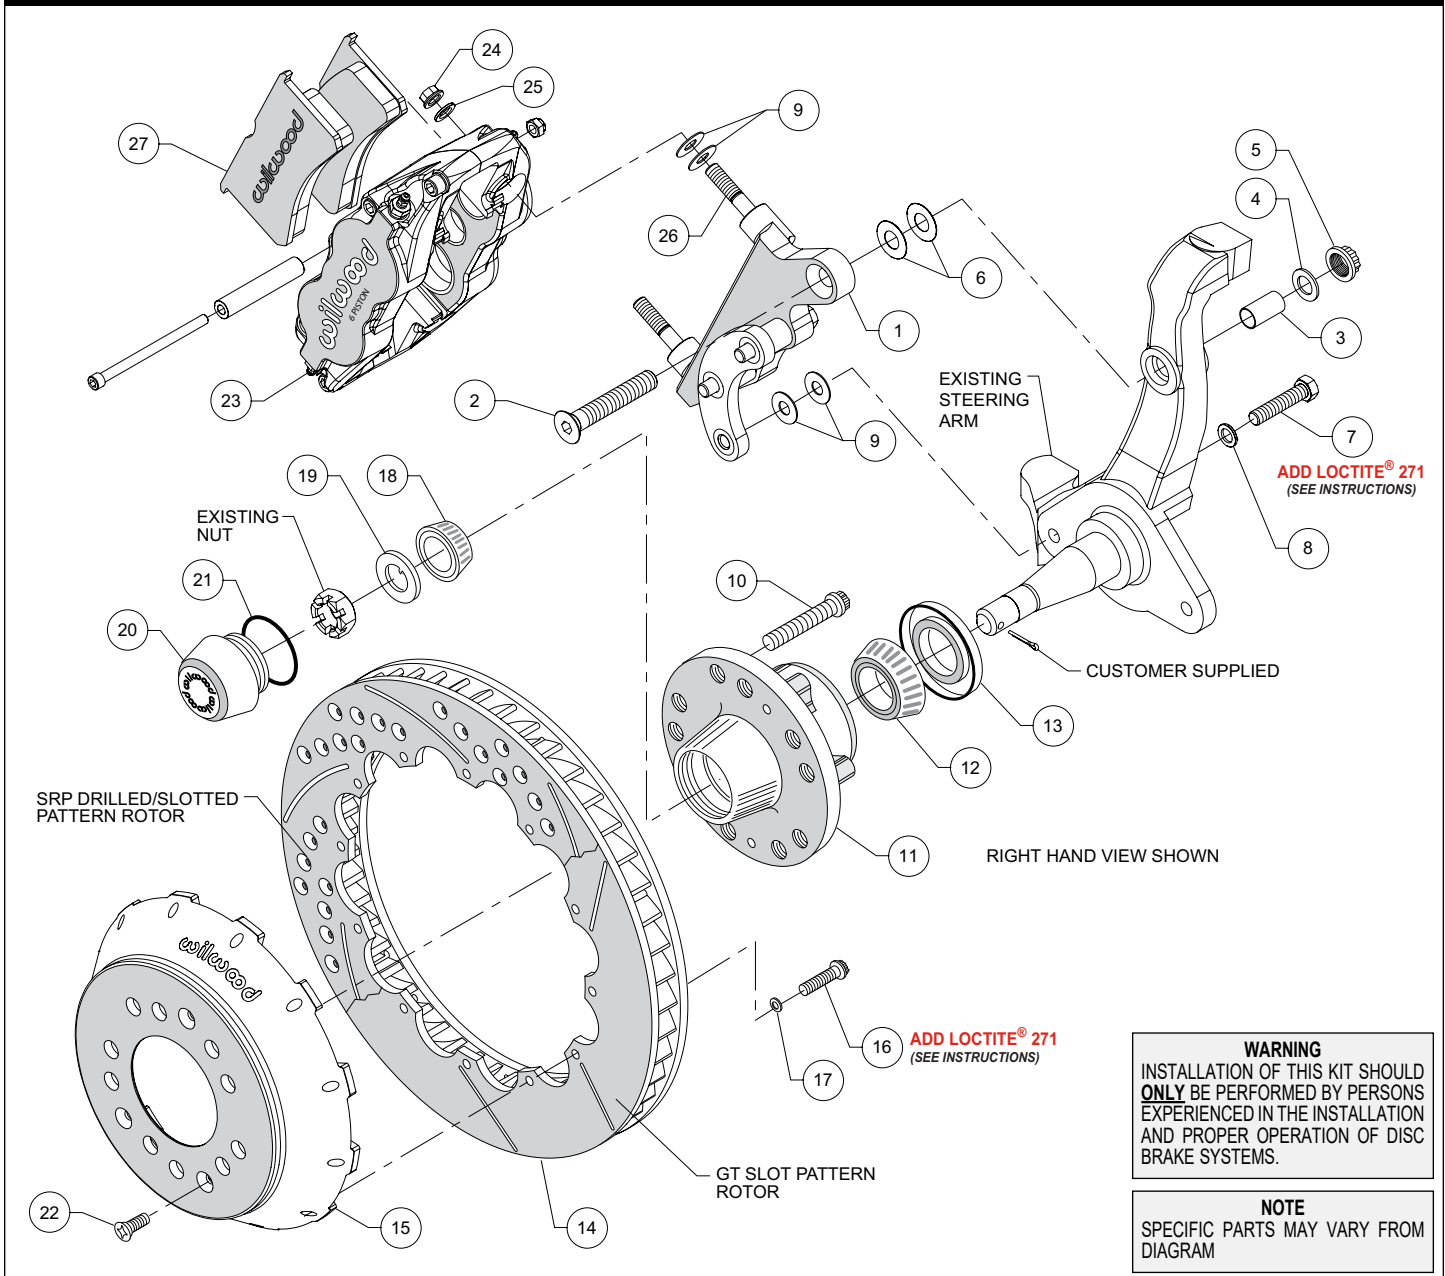
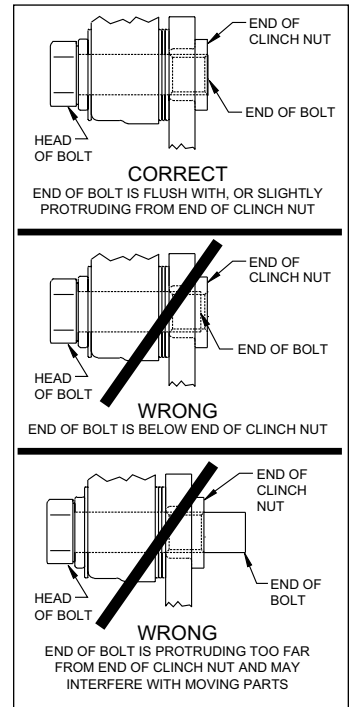

Figure 1. Typical Installation Configuration
Figure 4. Clinch Nut Engagement Diagram
Assembly Instructions (numbers in parenthesis refer to the parts list and Figure 1 on the preceding pages): **CAUTION:** All mounting bolts must fully engage clinch nuts. Be sure to check that all bolts are either flush or protruding through flanged side of clinch nut after shimming, Figure 4.
- The caliper bracket (1) should initially be installed with clean, dry threads on the mounting bolts. The bracket has been assembled at the factory for alignment purposes. Loosen the two bolts that secure the brackets together so that the bolts are hand tight only. This will enable the bracket assembly to be adjusted to accommodate various spindle tolerances during assembly. Insert sleeve (3) into top mounting hole on the spindle, Figure 1. Orient the bracket as shown in Figure 1 and install using bolt (2), washer (4), and locknut (5), in the upper hole, as shown in Figure 1 and Photo 1. Initially use two .032" thick shims (6) on the upper bolt between the bracket and spindle, Figure 1. Install bolt (7) and washer (8) in the lower hole, Figure 1. Initially use two .035" thick shims (9) between the bracket and spindle face. Temporarily tighten the mounting bolts, followed by the two bracket-to-bracket bolts. **NOTE:** The bracket must fit squarely against the mounting points on the spindle. Inspect for interference from casting irregularities, machining ridges, burrs, etc. Later, after the bracket and caliper alignment has been checked, the bolts will be secured using red *Loctite*® 271.
- Check that the bracket (1) is aligned parallel to the rotor (14), Photo 2, by assembling and installing the hub, hat, and rotor per the steps below. If not, parallel adjust by adding or subtracting shims (9) on the lower bolt between the spindle and bracket, Figure 1.
- Install wheel studs (10) into the hub (11), Photo 3. Torque to 77 ft-lb. **NOTE:** There are two five lug patterns in the hub (5 x 4.50 and 5 x 4.75). Ensure the correct hub stud pattern is being used to fit the wheel application.
- Pack the large inner bearing cone (12) with high temperature disc brake bearing grease (available from your local auto parts store) and install into the backside of the hub (11), Photo 4.
- Install the grease seal (13) by pressing into the backside of the hub (11), flush with the end of the hub, Photo 4.
- Orient the rotor (14) and the hat (15) as shown in Figure 1 and Photo 5. Attach rotor to hat using bolts (16) and washers (17). Apply red *Loctite*® 271 to the bolt threads and torque to 155 in-lbs using a criss-cross pattern. For an added measure of
- Pack the small outer bearing cone (18) with high temperature disc brake bearing grease and install into hub (11). Slide the hub assembly onto the spindle. Secure using spindle washer (19) and OEM spindle nut, Photo 6. Adjust bearings per OEM specifications. Install saved OEM nut lock (if any) and a new cotter pin (not included).
- Screw dust cap (20) into hub (11), Photo 7. Friction created by the o-ring (21) on the dust cap keeps it from unscrewing. **NOTE:** *The O.D. of the existing OEM spindle washer may be larger than the I.D. of the dust cap not allowing it to seat against the hub face. Therefore, use the spindle washer (19) supplied with the kit instead of the OEM washer.*
- Slide the hat/rotor assembly (14/15) onto the hub (11) taking care to align the small countersunk holes in the hat with the small threaded holes in the hub. **NOTE:** *The hat must fit flush against the hub face or excessive rotor run out may result.* Install three flat head screws (22) through the small holes in the hat, Photo 7, and torque to 85 **in-lb**.
- NOTE:** *This kit contains distinct right and left hand calipers that must be mounted in a specific direction, as described below.* Initially place two .035" thick shims (9) on each stud between the caliper and the bracket, as shown in Figure 1 and Photo 8. Mount the caliper (23) onto the bracket (1) using lock nuts (24) and washers (25), Figure 1. Ensure that the caliper is mounted so the largest pistons are at the rotor exit end of the caliper, in relation to the direction of rotor rotation. Temporarily tighten the lock nuts and view the rotor through the top opening of the caliper. The rotor should be centered in the caliper, Photo 9. If not, adjust by adding or subtracting shims (6 upper bolt, and 9 lower bolt) between the spindle and the caliper bracket. Always add or subtract the same amount of shims on each of the two mounting bolts to keep the bracket parallel to the rotor. **NOTE:** *The end of the lower bolt must be flush with, or slightly protruding from, the head of the clinch nut, as shown in Figure 4.* If necessary place spare shims between washer (8) and spindle to achieve the proper clinch nut engagement.